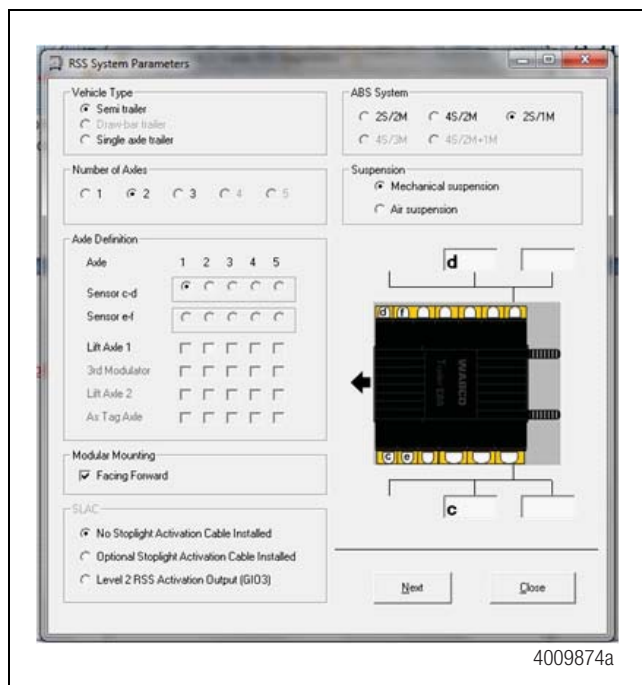

Figure 47
**NOTE:** No existing (active) faults, other than Parameter Setting (Special Faults) can be present during System Sign-Off. All faults must be cleared before proceeding. Figure 47.